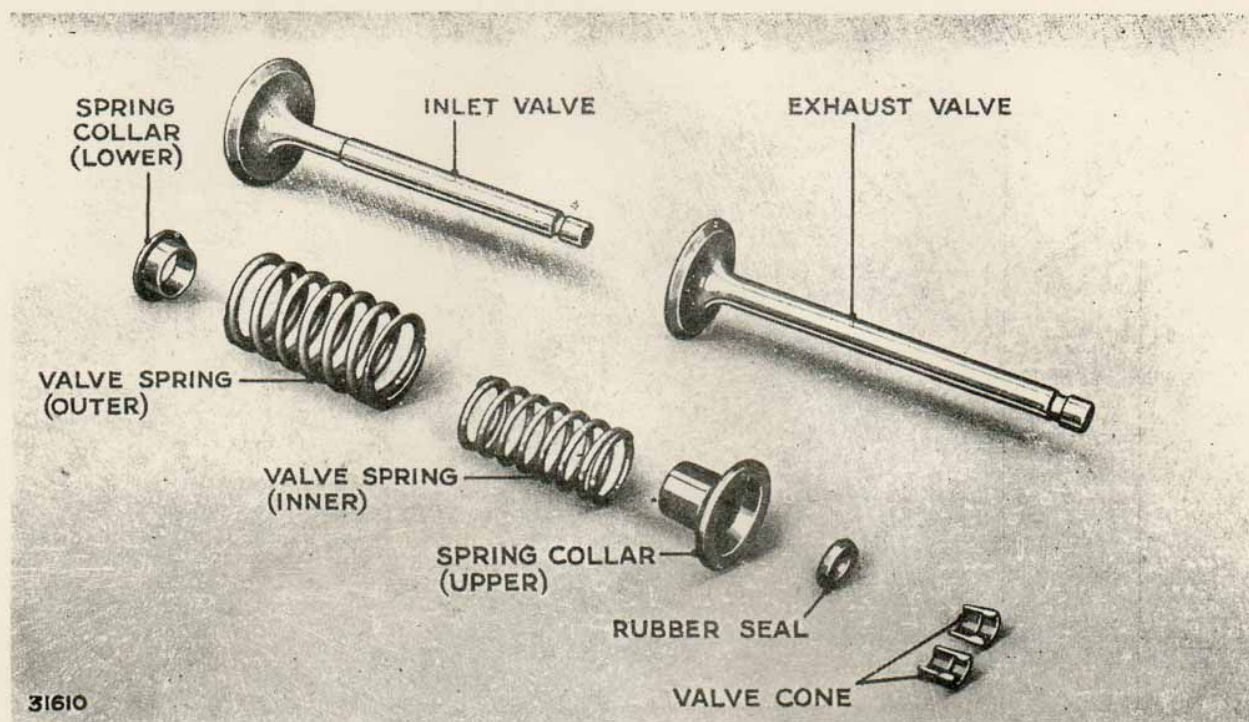
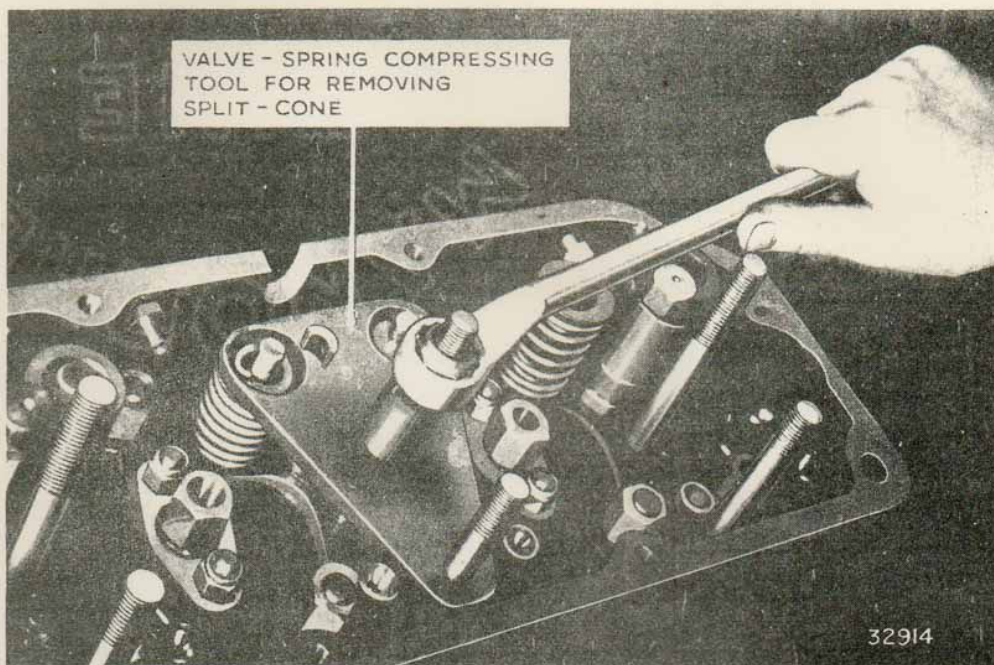

FIG. 8. VALVES AND SPRINGS.
FIG. 9. VALVE SPRING COMPRESSING TOOL.
2. Extract the split cone (Fig.9) and remove the valve collar together with the rubber sealing ring and valve springs (Fig.8).